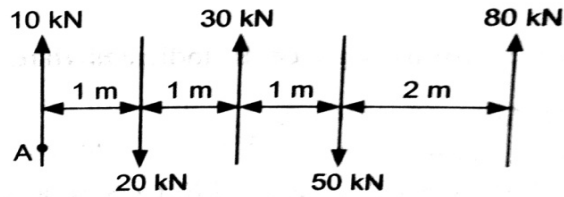

Fig. No.8
- c) Locate the resultant with magnitude and direction for the force system shown in fig.no. 8 wrt the point A.